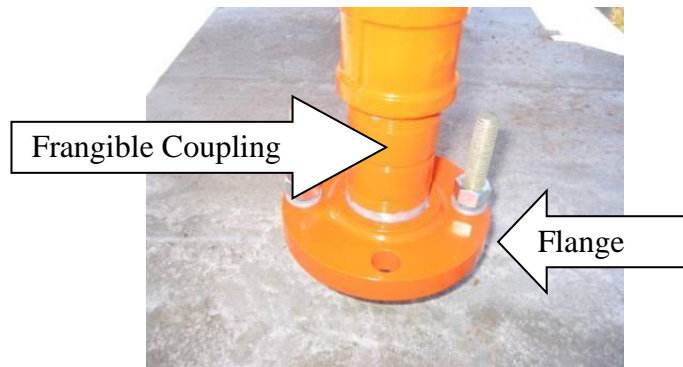

Figure 13. Frangible Coupling
5. Refer to Figure 13 to locate the frangible couplings and flanges.